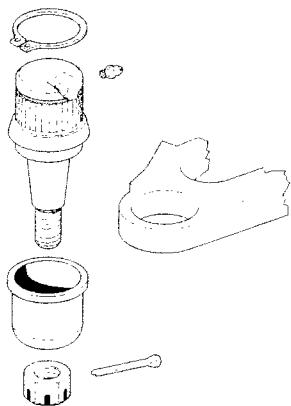

FIGURE 2
11. After verifying that the control arm and spindle are usable, proceed with the installation as follows: Position new ball joint to be pressed in so that the grease fitting hole faces the front of the vehicle (SEE FIGURE 2). Press the ball joint squarely into the arm until shoulder seats firmly against the control arm. Never use a hammer to drive ball joint into control arm.